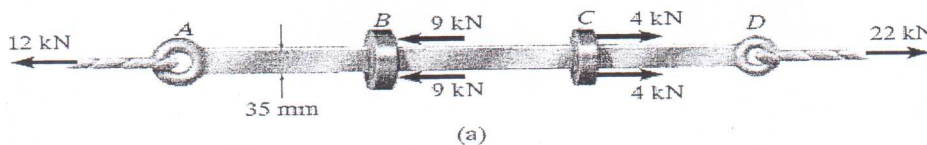

Figure 2.
- (5) The bar shown in Figure 2 has a constant width of 35 mm and a thickness of 10 mm. Determine the maximum average normal stress in the bar when it is subjected to the loading shown.